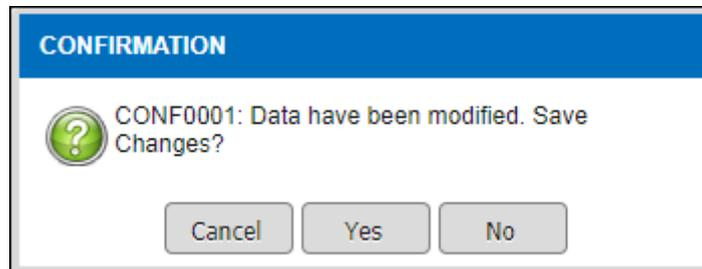

Figure 3.3-2 Save Confirmation
- Click on the  button in Figure 3.3-2.